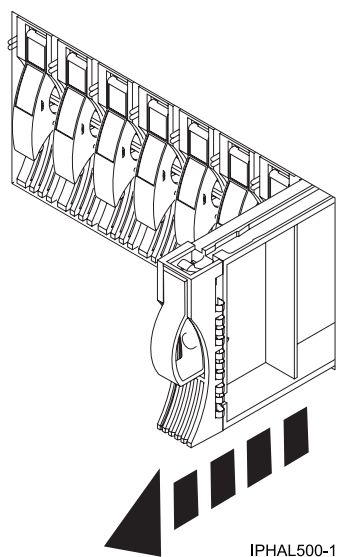

Figure 7. Removing a disk-drive filler from model
- a. Pull the disk-drive filler from the slot, as shown in Figure 7 on page 22.